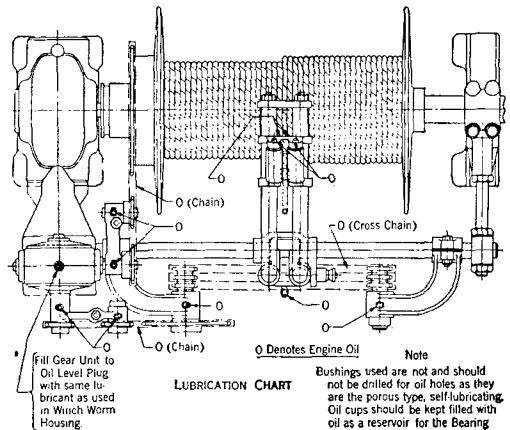

Fig. 6—Lubrication Chart
4.02 Fig. 6 and 7 show the lubrication points on the winders and indicate the lubricant required. Oil cups and chains should be checked for sufficient lubrication at the beginning of each day of operation.